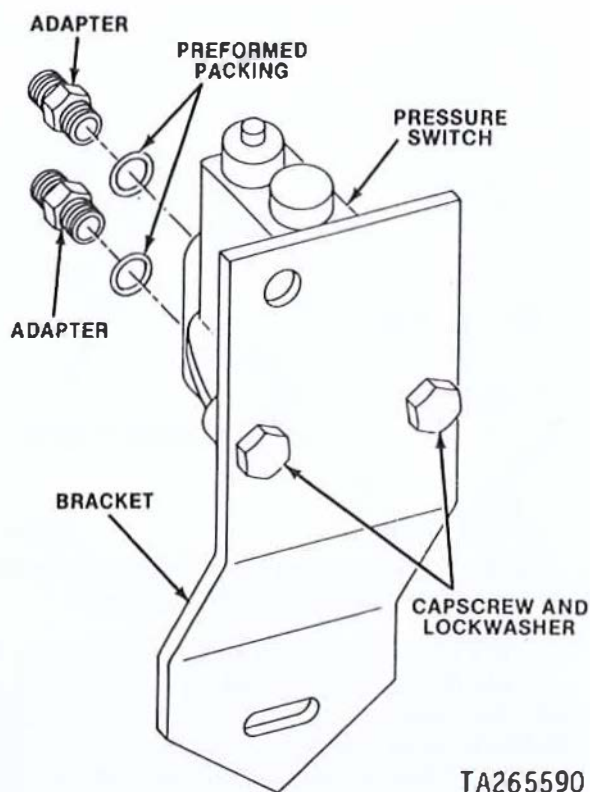

Figure 4-10 Removing or Installing Dust Detector Pressure Switch
- (6) Remove two capscrews (fig. 4-10) and lockwashers, and separate pressure switch from bracket. Remove two adapters and remove and discard two preformed packings.
(1) Install two new preformed packings (fig. 4-10) and two adapters. Position right bank pressure switch on bracket and secure with two cap screws and lockwashers.